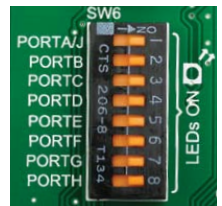

Figure 6-6: SW6.1 through SW6.4 switches are used to enable PORT LEDs
Board contains 69 LEDs which can be used for visual indication of the logic state on PORT pins. An active LED indicates that a logic high (1) is present on the pin. In order to enable PORT LEDs, it is necessary to enable the corresponding DIP switch on **SW6** (**Figure 6-6**).